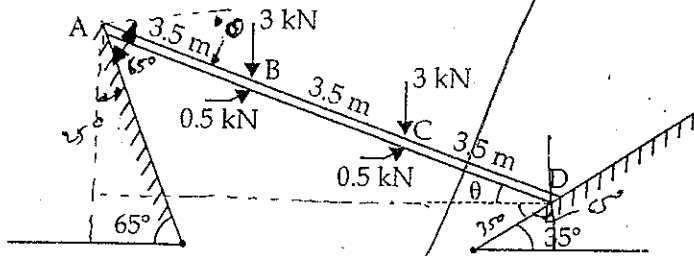

Figure 1
1. (A) A bar AD of negligible weight rests against two smooth inclined planes and is subjected to forces as shown in Figure 1. Determine the angle θ made by the bar AD with the horizontal at which equilibrium exists. 13